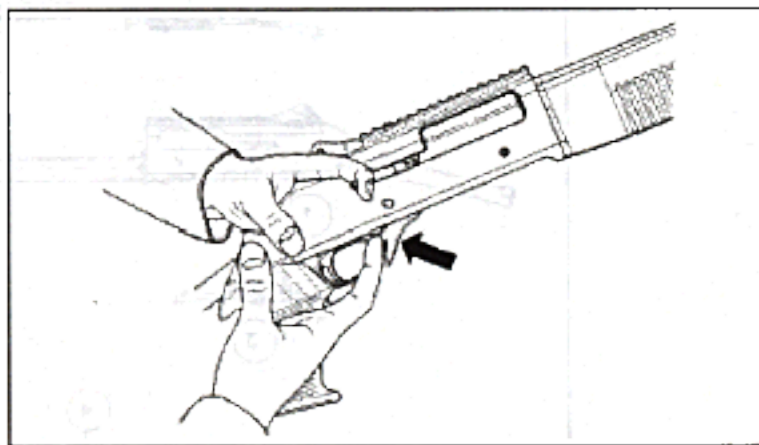

Figure 6d. Shell release lever
**Shell Release Lever** – This operating control has a dual purpose. Located on the right side of the trigger group, this black colored lever with red dot is pressed upwards by the operator into the receiver of the weapon. This lever is located in such a way that the right-handed operator can actuate this control using the trigger finger (normally without adjusting the grip of the firing hand) (**Figure 6d**).